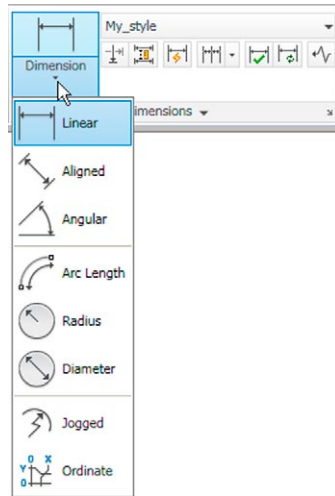

Fig. 6.1 Dimension tools in the **Annotate/Dimensions** panel
1. From the **Annotate/Dimensions** panel (Fig. 6.1).
3. Click the **Linear** tool icon in the **Annotate/Dimension** panel (Fig. 6.1).
3. The drop-down menu from the **Line** tool icon contains the following tool icons – **Angular**, **Linear**, **Aligned**, **Arc Length**, **Radius**, **Diameter**, **Jog Line** and **Ordinate**. Refer to Fig. 6.1 when working through the examples below. **Note** – when a tool is chosen from this menu, the icon in the panel changes to the selected tool icon.
3. *Left-click* the **Aligned** tool icon (see Fig. 6.1) and dimension the outline. The prompts and replies are similar to the first example.
3. *Left-click* the **Radius** tool icon (see Fig. 6.1). The command line shows:
From Figs 6.1 and 6.2 it will be seen that there are some dimension tools which have not been described in examples. Some operators may prefer *entering* dimensions from the command line. This involves abbreviations for the required dimension such as: